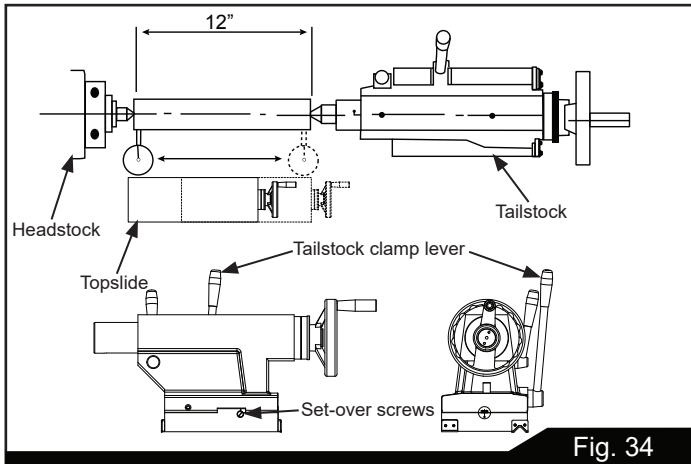

Fig. 34
1. Fit a 12" ground, center-drilled, steel bar between centers of headstock and tailstock (Figure 34).